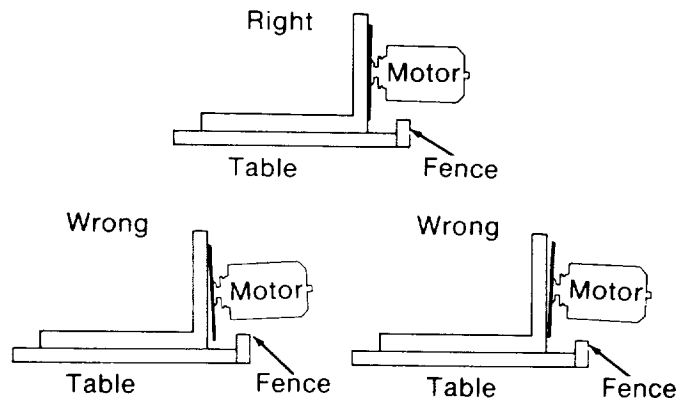

Fig. 69
5. If the square is flush with the *blade* after each rotation (Figure 69) to step 11, or
If there is a gap between the square and the *blade* after any rotation (Figure 69), go to step 6.